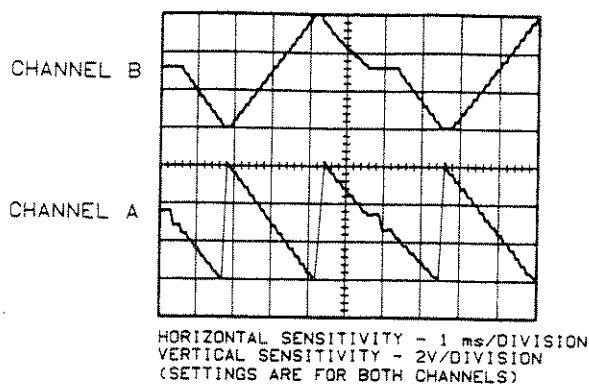

Figure 8-13. X-Axis (Bottom) and Y-Axis (Top) Drive Signals
3. Turn on the Noise Figure Meter and verify that the signals are as shown in Figure 8-13.